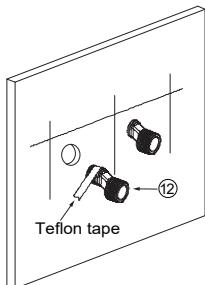

Figure 2
- c) Wrap the teflon tape anticlockwise on the thread of the G1/2 end, connect them to the hot and cold water outlets by a wrench. Leave suitable depth out of the wall and adjust the distance between 2 connectors according to the width of the inlet on the thermostatic shower bar (Figure 2).